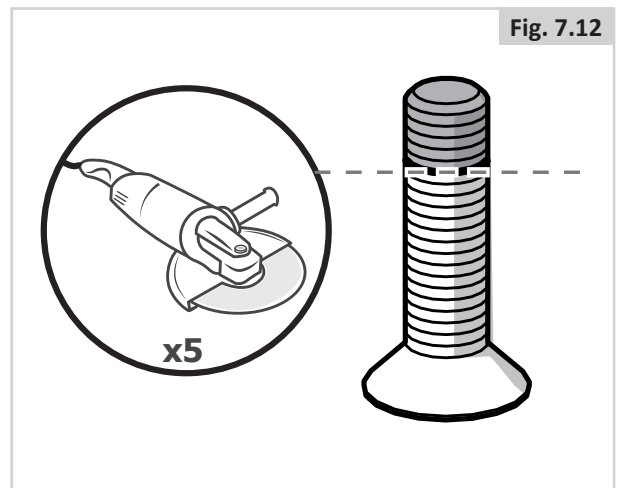

Fig. 7.12
7. Cut the screw where the mark is (Fig. 7.12).